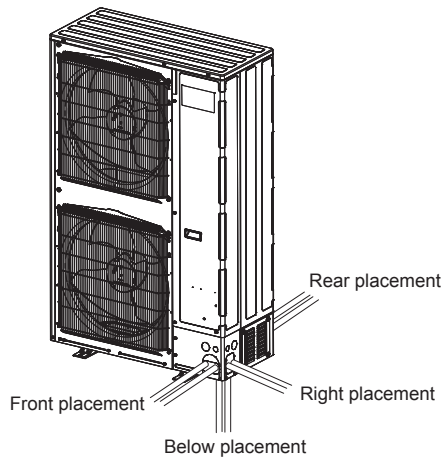

Fig. 4-11
- ① Perform refrigerant piping connections for the indoor/outdoor unit when the outdoor unit's stop valve is completely closed.
- ② Vacuum-purge air from the indoor unit and the connection piping.
- ③ Attach the front cover and back cover to match each of the directions the piping passes through. (Fig. 4-11)
- When routing piping using a piping cover, cut out the knockout in the piping cover (B or D) following the groove, and wrap the pipes. (Fig. 4-11)